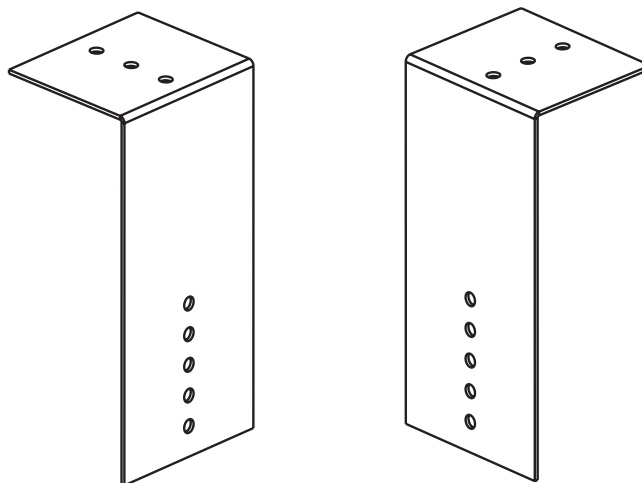

Figure 19. Concentric Adapter Box Brackets
4. Secure longer angles on concentric adapter box brackets (see Figure 19) to concentric adapter box.
- b. Position concentric adapter box to match pipe runs and secure short angles of concentric adapter brackets (see Figure 19) to underside of roof using field-supplied hardware.